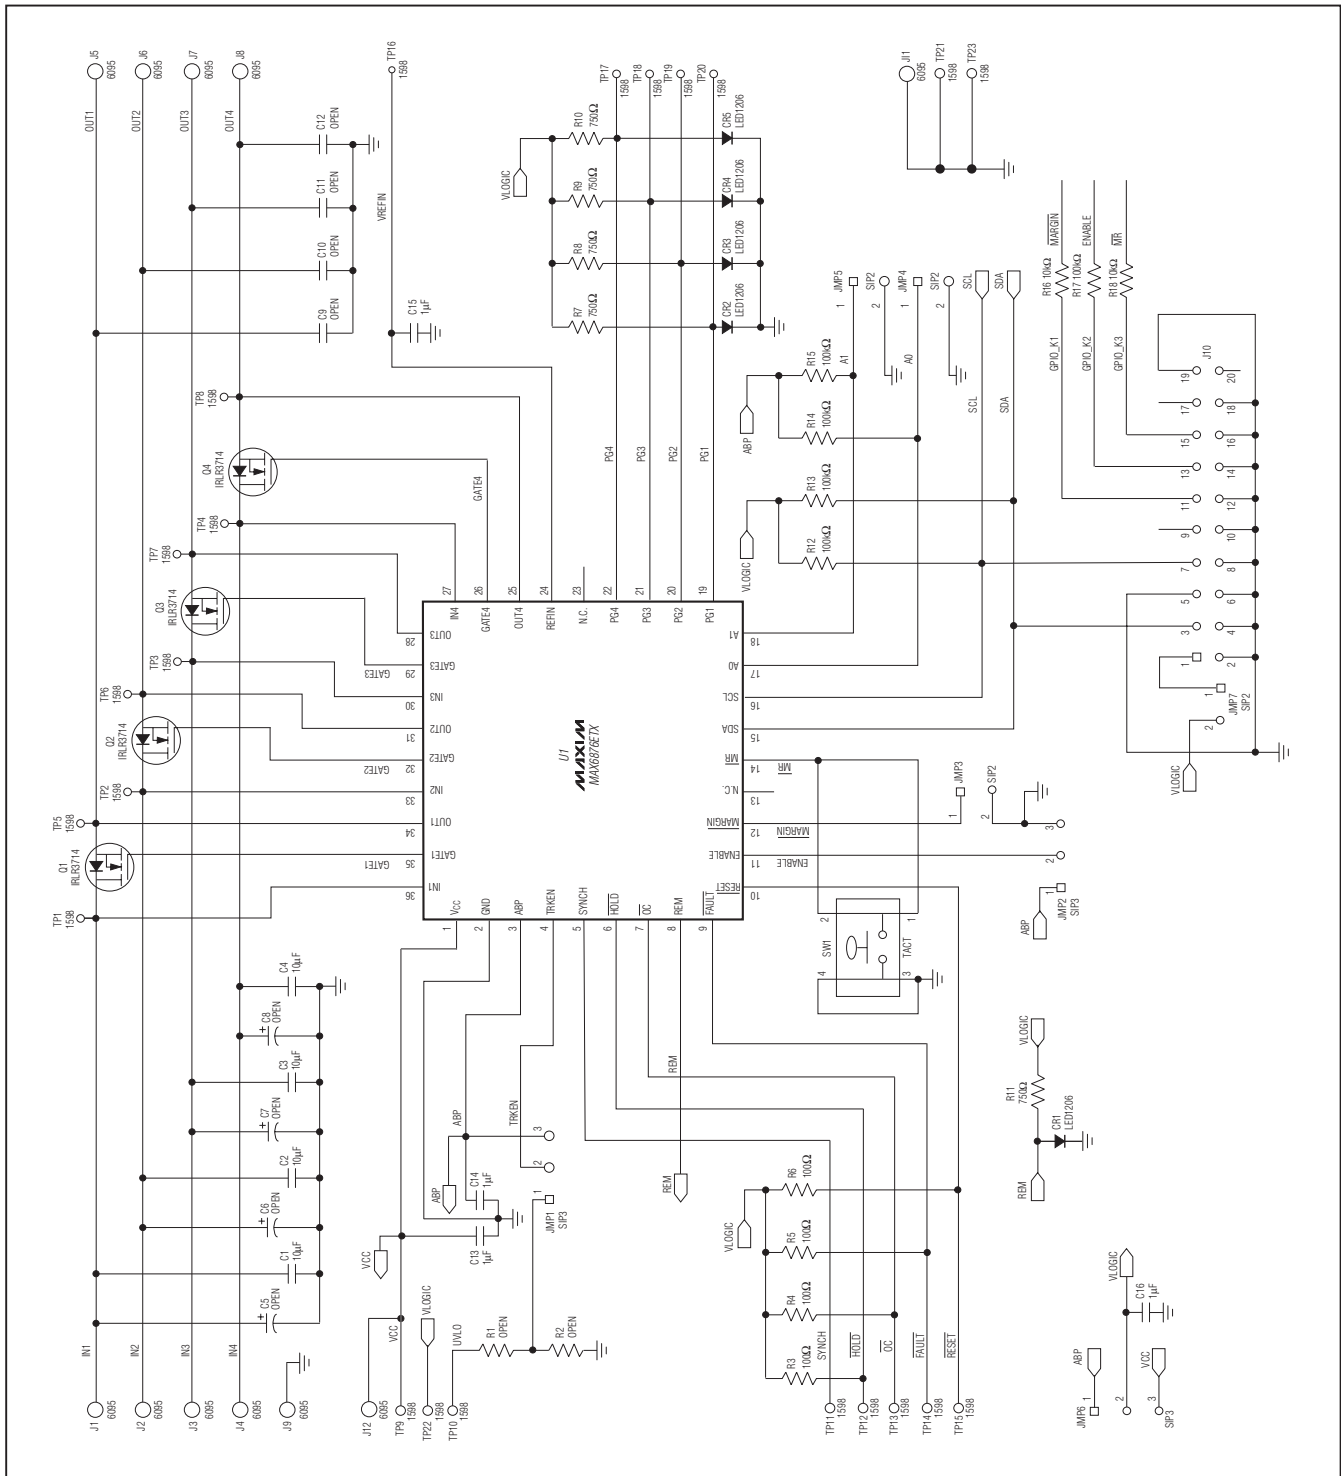

Figure 3. MAX6876 EV Kit Schematic
- 5) Set JMP6 to provide either V_{CC} or ABP voltage to the V_{LOGIC} net. The V_{LOGIC} net must be connected to ABP if the MAX6876 is to be powered from one of the voltage-detector inputs (IN1–IN4), and the CMOD232 module is not connected (or if JMP7 is open). See Figure 3 and Table 5 for JMP6 settings. Be sure to remove resistors R7–R10 if V_{LOGIC} is to be connected to ABP. Refer to the ABP section of the MAX6876 IC data sheet.
- 6) Place a shorting link at JMP7 if the MAX6876EVKIT logic is to be powered from the CMOD232 module. This connects the CMOD232 +5V supply to the V_{LOGIC} net of the MAX6876EVKIT. See Figure 3 and Table 6.
Tables 1 through 5 describe the EV kit configuration jumper functions. For a detailed understanding of the jumpers, see Figure 3, the MAX6876 EV kit schematic.